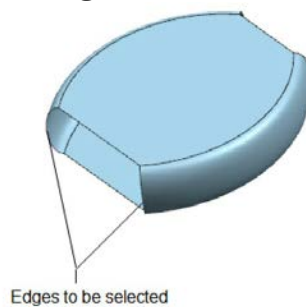

Figure 11-49 Edges to be selected
- f. Create the bottom surface of the model using the **Bridge** tool, refer to Figures 11-49 and 11-50.
1. Choose **Menu > Insert > Detail Feature > Bridge from the Top Border Bar**; the **Bridge Surface** dialog box is displayed. Select the first edge and then the second edge, refer to Figure 11-49.